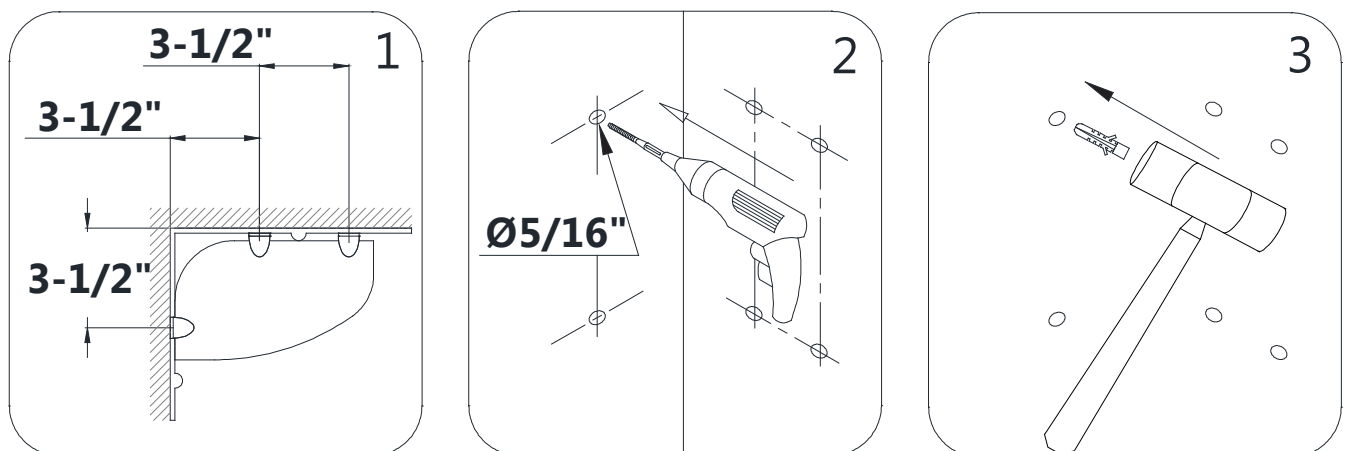

Fig 26
26. Mark the location for the **Shelf Brackets (#10)** according to the measurements in Fig 25.1. Drill the holes using $\text{Ø}5/16''$ drill bit and insert the **Wall Anchors (#06)**. (Fig 26)